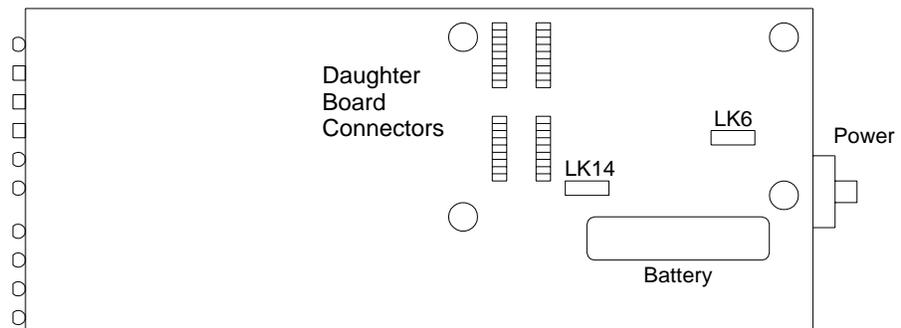

Figure D-2: PAD CPU Board
2. Locate the battery holder on the CPU (main) circuit board and install the battery in the orientation shown in Figure D-2. The battery is not enabled unless Jumper LK14 is set (see Table D-1).